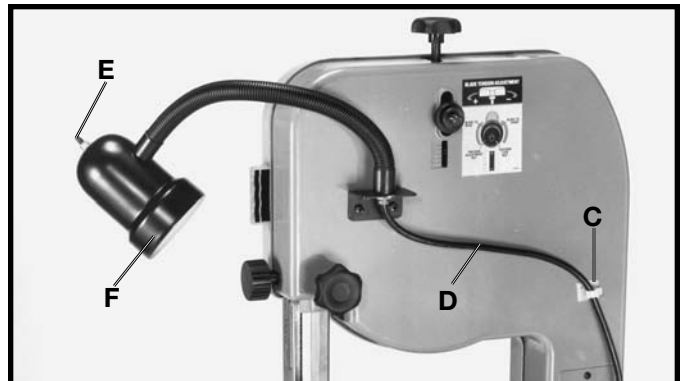

Fig. 13
2. Peel backing from cord clamp (C) Fig. 13, and stick cord clamp (C) onto rear of top cover in a position that will redirect lamp cord (D) out of the way of the band saw table. Then assemble cord (D) to cord clamp (C) as shown.
3. The flexible lamp operates independently of the band saw. To turn the lamp "ON" and "OFF", rotate switch (E) Fig. 13.